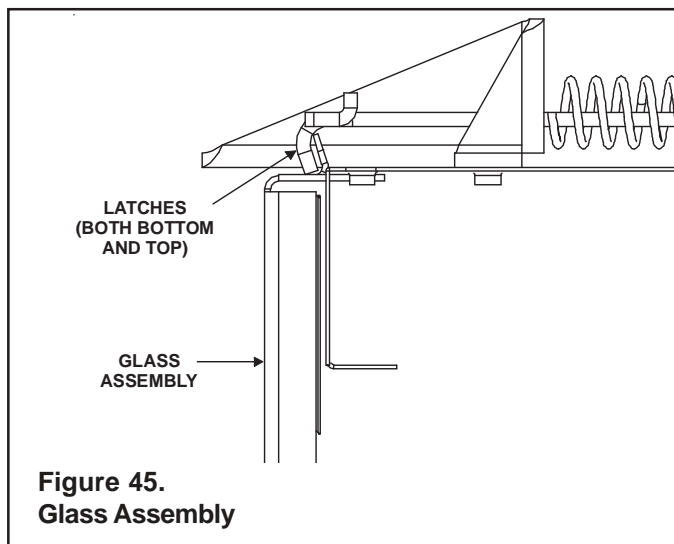

Figure 45.
- Pull the four glass latches out of the groove on the glass frame. Remove glass door from the unit (see Figure 45).